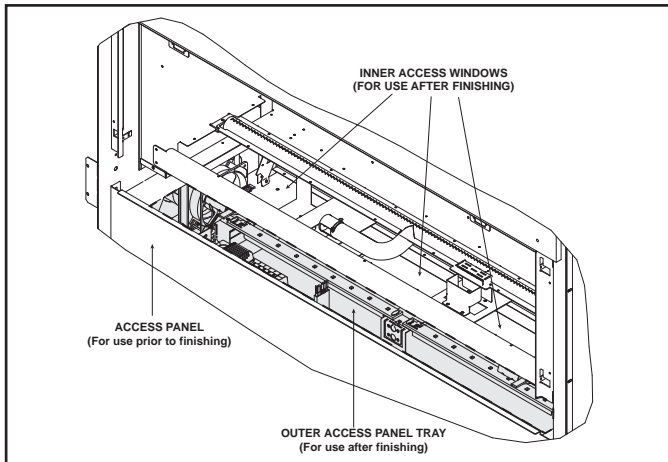
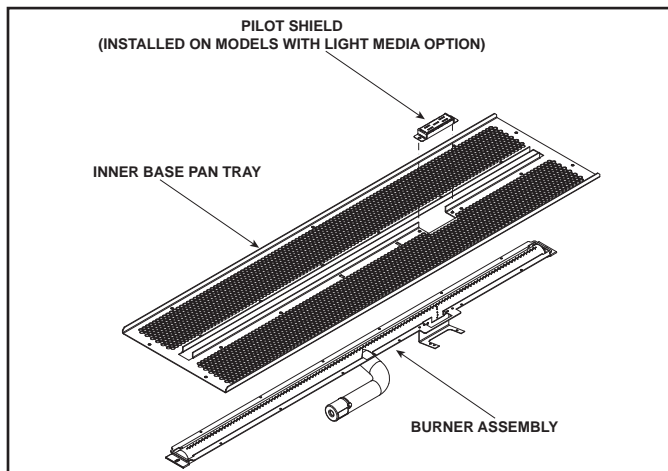

Figure 11.2 Gas and Electrical Access
Figure 11.3. Base Pan with Burner and Pilot Cover
The lower access cover panel is removable if finishing material is not installed. See Figure 11.2.
2. Remove the base pan. It is attached with 10 screws to the interior firebox bottom and with 12 screws to the burner assembly. If your appliance is a model that has the glass rock media, you must also remove the pilot shield cover at this time. See Figure 11.2 and Figure 11.3.
3. Remove the two screws securing the burner to the firebox sides and disengage burner from over orifice. Remove burner. See Figure 11.3.
4. Remove access panel covers or glass windows, along with gaskets. Gaskets may be fragile. Handle with care. See Figure 11.2.
In the event that the junction box may need to be accessed or installed after finish methods have been applied, access is possible by removing the valve assembly (See Figure 11.2).